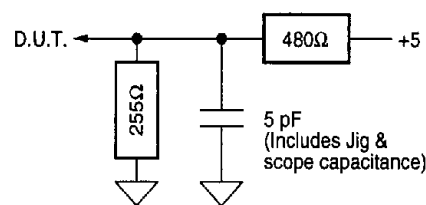

Figure 1b. Output Disable Timing Load
6. Transition is measured ± 500 mV from steady-state voltage with load of Figure 1B. This parameter is sampled rather than 100% tested. At any given voltage and temperature, t_{CHZ} max is less than t_{CLZ} min for a given device and from device to device.